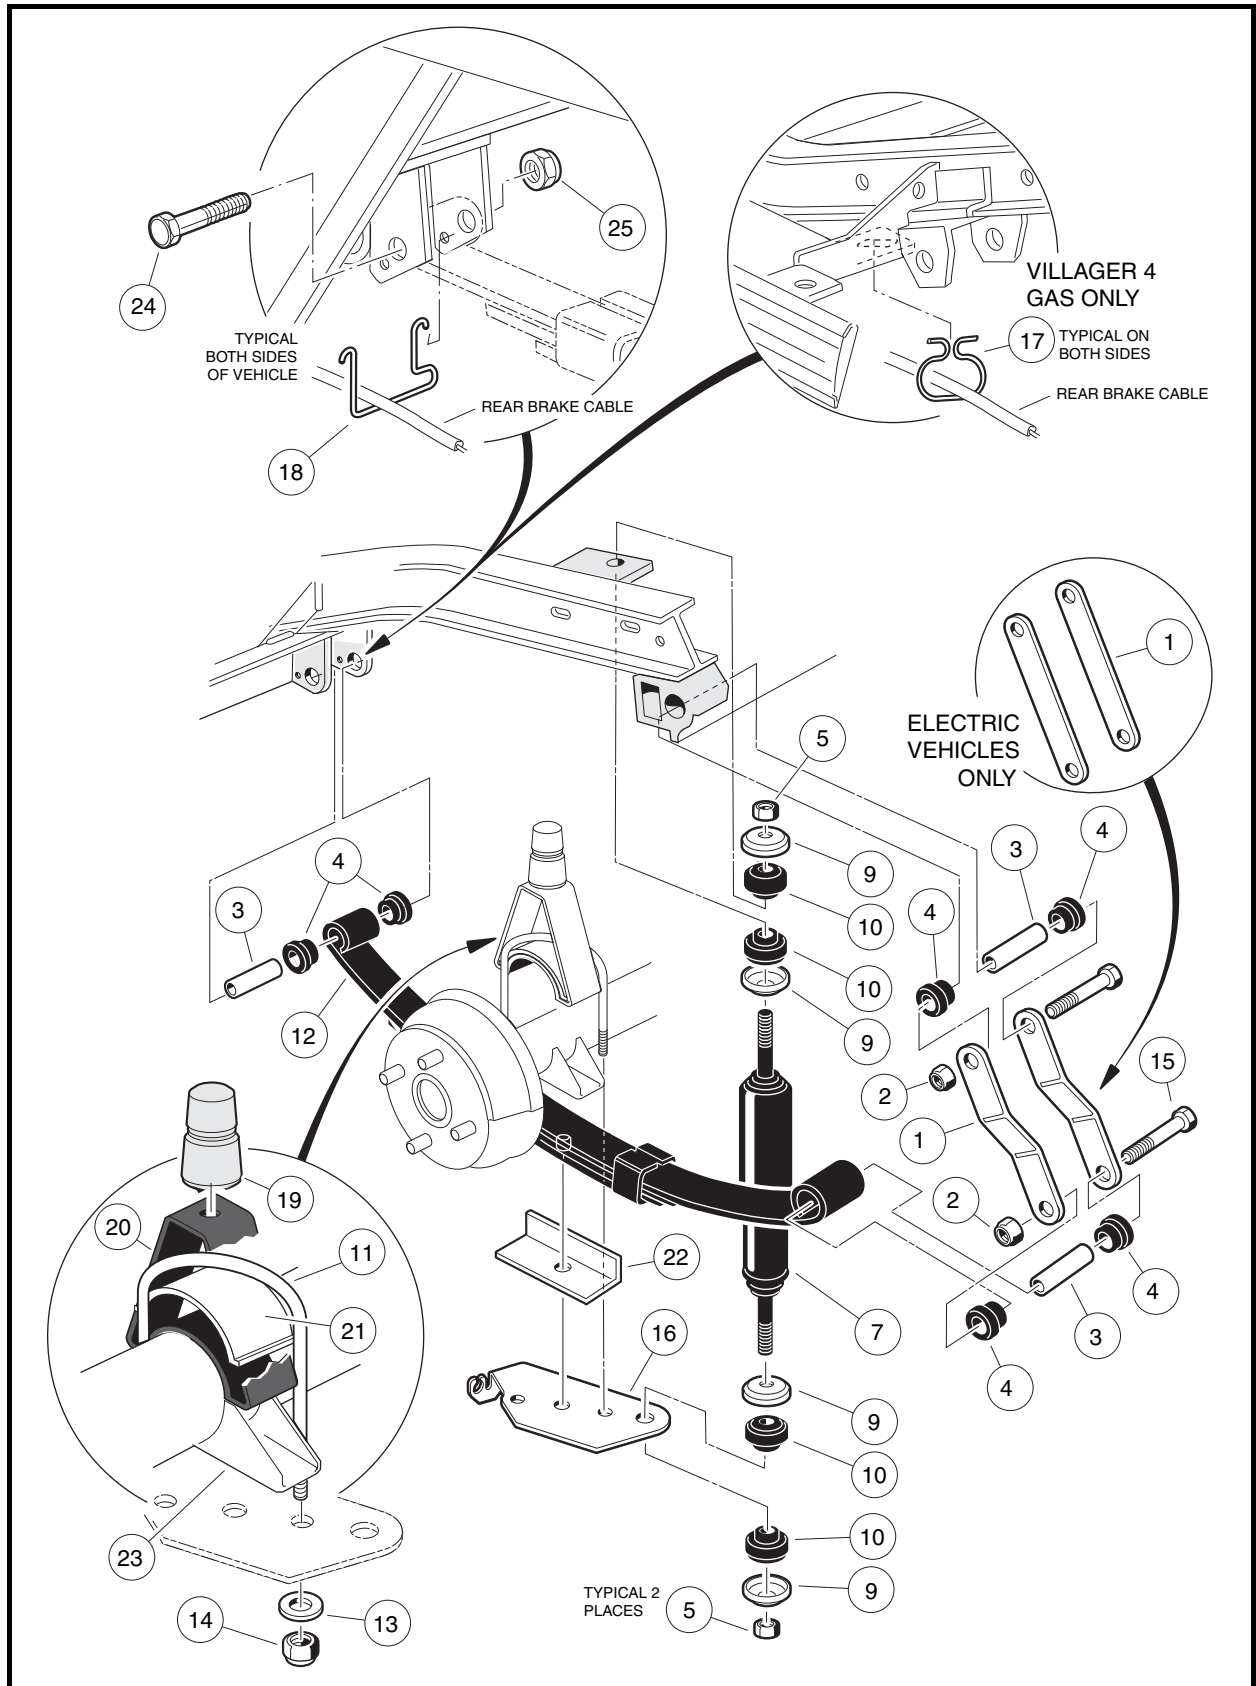
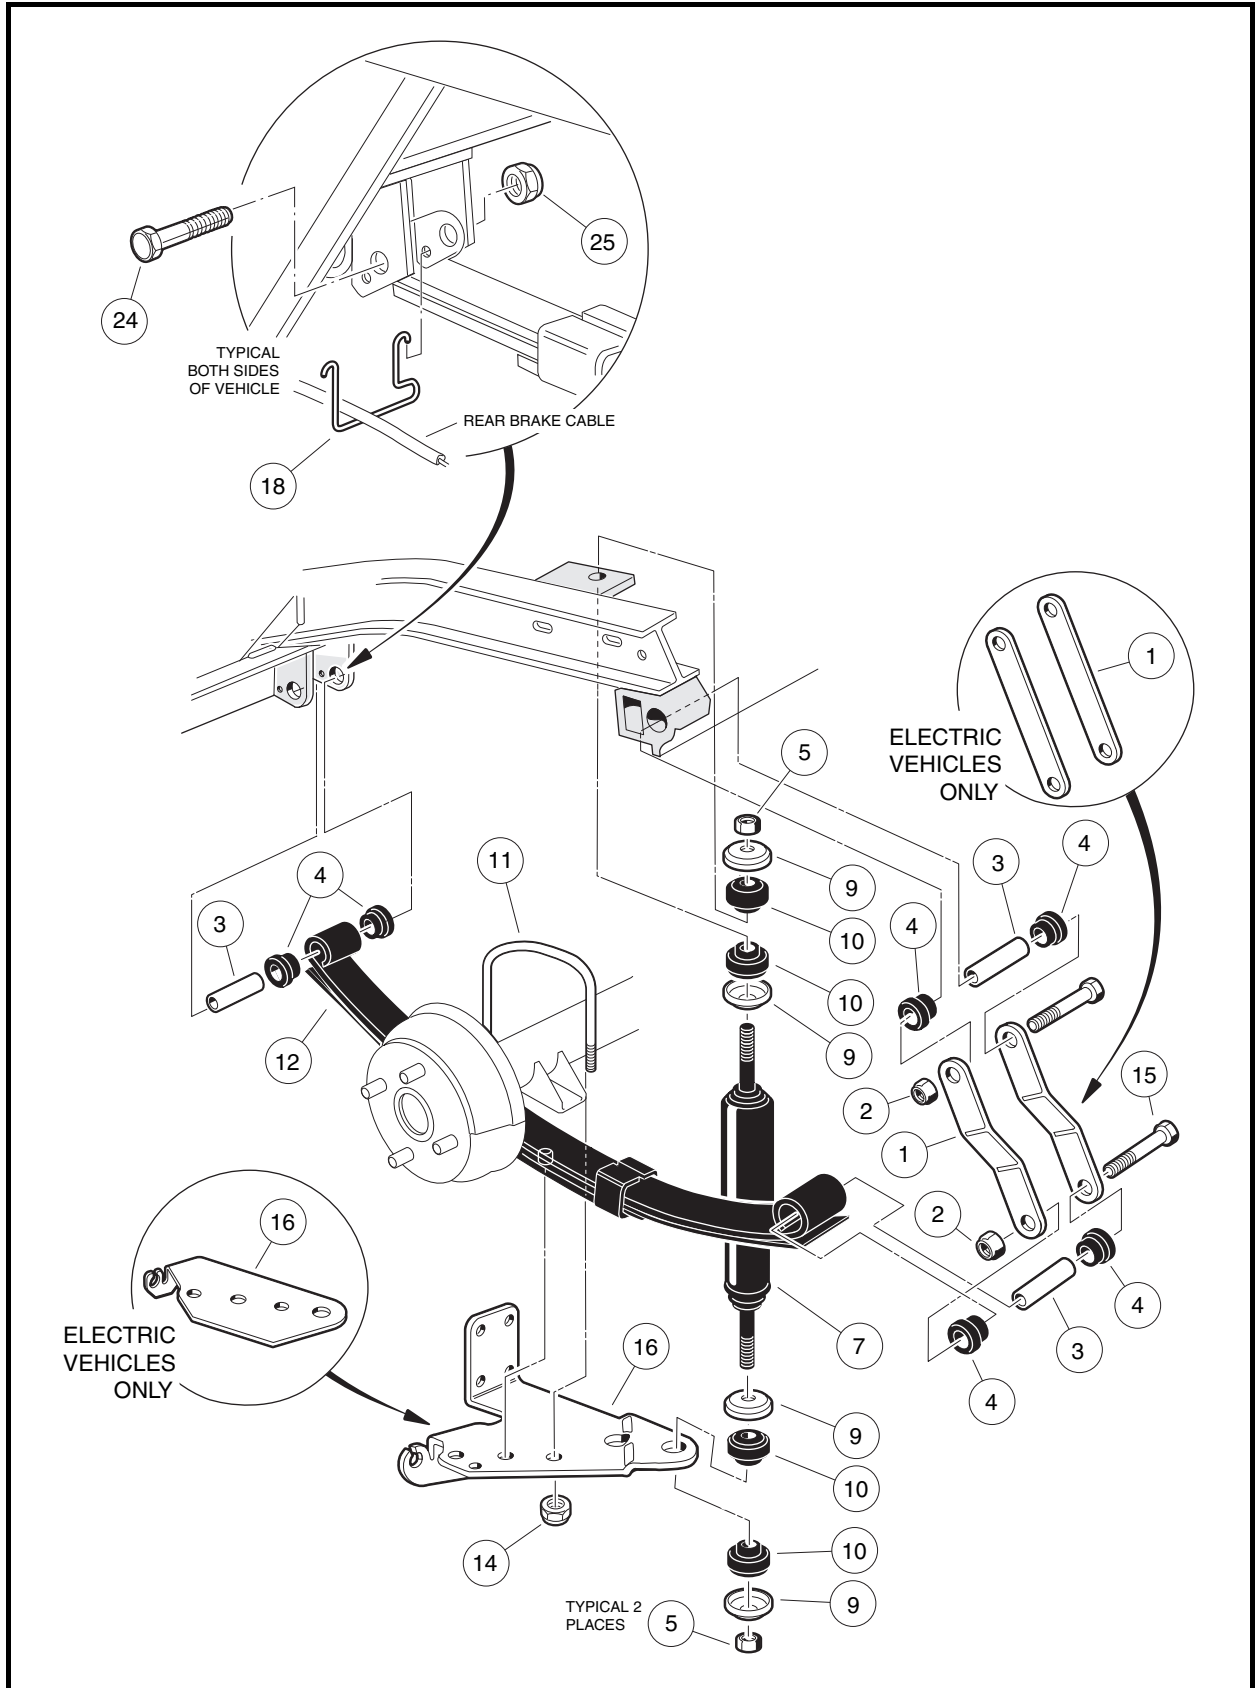

Figure 9-3 Rear Suspension – Villager 4 Vehicles
Figure 9-4 Rear Suspension – All Transportation Vehicles Except Villager 4
1. Check shock absorbers (7) for damage and fluid leakage around the lower housing of the shock absorber body. Replace damaged or leaking shock absorbers (**Figure 9-3, Page 9-4 or Figure 9-4, Page 9-5**).
2. To remove a shock absorber (7), remove the nut (5), cup washer (9), and rubber bushing (10) from the upper shock absorber stem.
3. Remove lower mounting hardware (5, 9 and 10) on shock absorber lower mount (**Figure 9-3, Page 9-4 or Figure 9-4, Page 9-5**). See also **Figure 9-1, Page 9-1**.
2. On the upper shock absorber mount, tighten nut (5) until rubber bushing (10) expands to size of cup washer (9) (**Figure 9-3, Page 9-4 or Figure 9-4, Page 9-5**).
3. On the lower shock absorber mount, install mounting hardware. Tighten the nut (5) until the rubber bushing (10) expands to the same diameter as the cup washer.
**NOTE:** Villager 4 vehicles are equipped with jounce bumpers (**Figure 9-3, Page 9-4**).
5. Remove lower nut (5), cup washer (9), and rubber bushing (10) from shock absorber (7) (**Figure 9-3, Page 9-4 or Figure 9-4, Page 9-5**).
- 6.1. Remove the lock nuts (14) and flat washers (13) (if present) attaching the U-bolt (11) to the shock mount bracket (16). Remove jounce bumper mount (20) and spacer (21) (**Figure 9-3, Page 9-4**).
- 6.2. Allow shock mount bracket (16) to rotate downward and remove spring retainer (22). Do not disconnect brake cable from bracket (**Figure 9-3, Page 9-4**).
- 7.1. Remove the lock nuts (14) attaching the U-bolt (11) to the shock mount bracket (16). Do not disconnect brake cable from bracket (**Figure 9-4, Page 9-5**).
8. Raise axle with floor jack until axle saddle (23) is 1 inch (2.5 cm) above spring (**Figure 9-3, Page 9-4**).
9. Remove bolt (15) and lock nut (2) attaching the leaf spring (12) to the rear shackle (1) (**Figure 9-3, Page 9-4 or Figure 9-4, Page 9-5**).
10. Allow rear of leaf spring (12) to rest on the ground and remove the bolt (24) and lock nut (25) attaching the front of the spring to the vehicle frame (**Figure 9-3, Page 9-4 or Figure 9-4, Page 9-5**). Remove spring from vehicle.
11. Inspect the rubber bushings (4) and steel sleeves (3) in the spring eyes and replace them if they are worn or damaged (**Figure 9-3, Page 9-4 or Figure 9-4, Page 9-5**).
1. Install rubber bushings (4) and steel sleeves (3) into leaf spring eyes if bushings were removed (**Figure 9-3, Page 9-4 or Figure 9-4, Page 9-5**).
2. Place front of leaf spring (12) into vehicle frame and insert bolt (24) through frame and leaf spring eye. Install lock nut (25) and tighten to 15 ft-lb (20.3 N-m).
3. Align the other end of leaf spring with the holes in the spring shackles (1). Insert bolt (15) through leaf spring eye and shackles. Install lock nut (2) and tighten to 15 ft-lb (20.3 N-m). Lower transaxle onto leaf spring (12). **See following CAUTION.**
- When placing transaxle on spring, be sure to position locating bolt on the spring in the locating hole in the transaxle saddle (23) (**Figure 9-3, Page 9-4**).
- 4.1. Install spring retainer (22) and shock mount bracket (16) onto locating bolt at bottom center of leaf-spring (**Figure 9-3, Page 9-4**). **See preceding CAUTION.**
- 4.2. Position jounce bumper mount (20) with spacer (21) onto axle tube. Install U-bolt (11), flat washers (13) (if present), and lock nuts (14). Tighten U-bolt to 25 ft-lb (34 N·m) (**Figure 9-3, Page 9-4**).
- 5.1. Install shock mount bracket (16) onto locating bolt at bottom center of leaf-spring (**Figure 9-4, Page 9-5**). **See preceding NOTE.**
- 5.2. Install U-bolt (11) and lock nuts (14). Tighten U-bolt to 25 ft-lb (34 N·m) (**Figure 9-4, Page 9-5**).
1. Grip jounce bumper (19) and pull from bumper mount (20) **(Figure 9-3, Page 9-4)**.
1. Insert jounce bumper (19) into bumper mount (20) **(Figure 9-3, Page 9-4)**. Make sure the entire circumference of bumper is seated firmly in mounting hole.